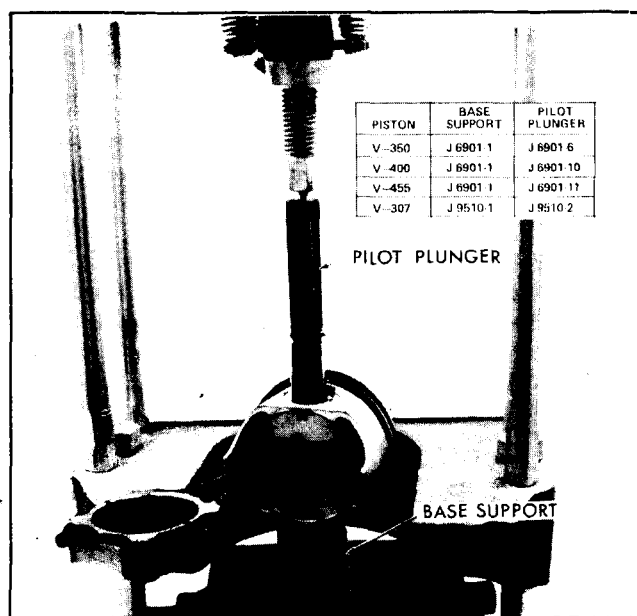

Fig. 6-162 Installing Piston Pin
1. Place pilot plunger and spring in the support base to be used as a pilot end stop. See figure 6-162 insert for correct base support and pilot plunger for type pistons being serviced.
4. Place tool J 6901-3 (all except 307 engine) or J 9510-2 (307 engine) in piston pin and press pin into piston and connecting rod (Fig. 6-162) until piston pin bottoms against plunger of tool J 6901 or J 9510. Piston must turn freely on pin. If piston binds on pin, disassemble, hone piston pin bosses slightly and reassemble.